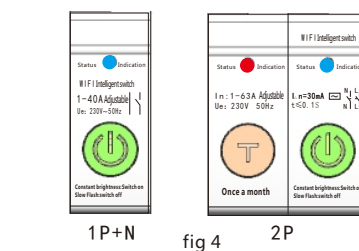

fig 4
7 Operation Trial and panel instructions: Panel see fig.4
7.2.5 Signal indicator light fig4